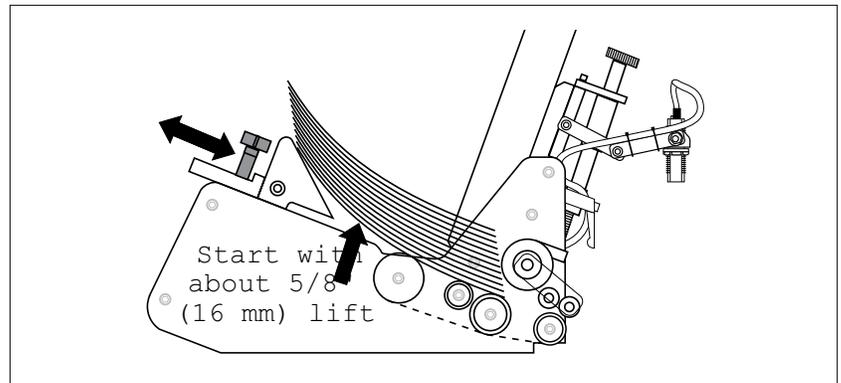

Figure 23. Adjusting Back Wedge for Proper Lift
4. Move the back wedge forwards and backwards until the bottom sheet is not touching the table top (Figure 23). A good starting point is to measure about 5/8 in. (16 mm) from the bottom sheet to front edge of table top. Then as you test, you can “fine tune” from this point. *Refer back to the previous page for other helpful guidelines.*